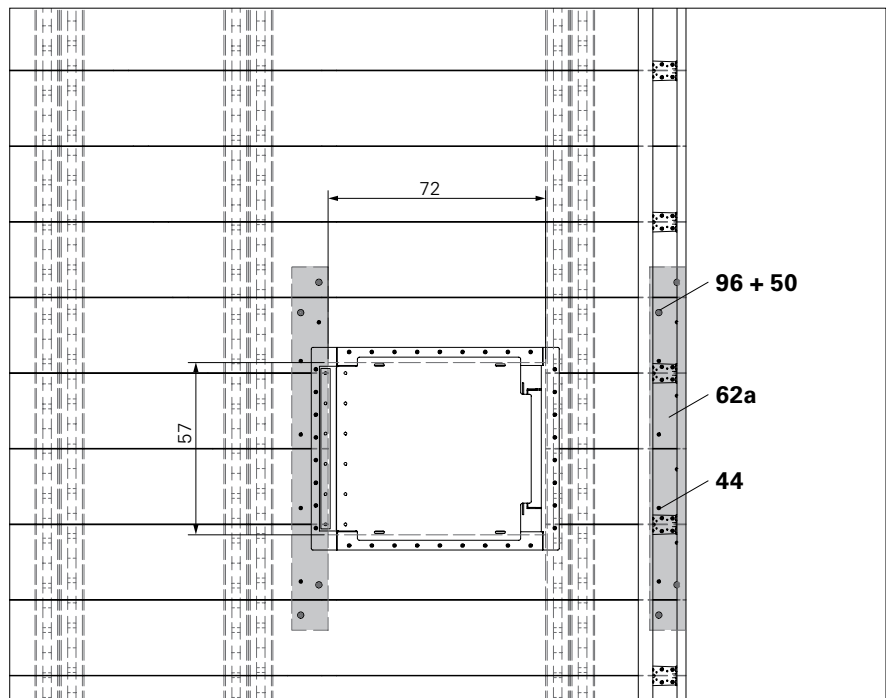

Fig. B5.01
2. Support the cut planks with timbers (36a), L = 120 cm, min. 120 x 40 mm, and secure with TORX 6 x 80 (44).
3. Attach timbers (36a) to the laterally positioned continuous planking with 2x bolts M8 x 100 (96), nuts and washers (50) respectively. (Fig. B5.01)